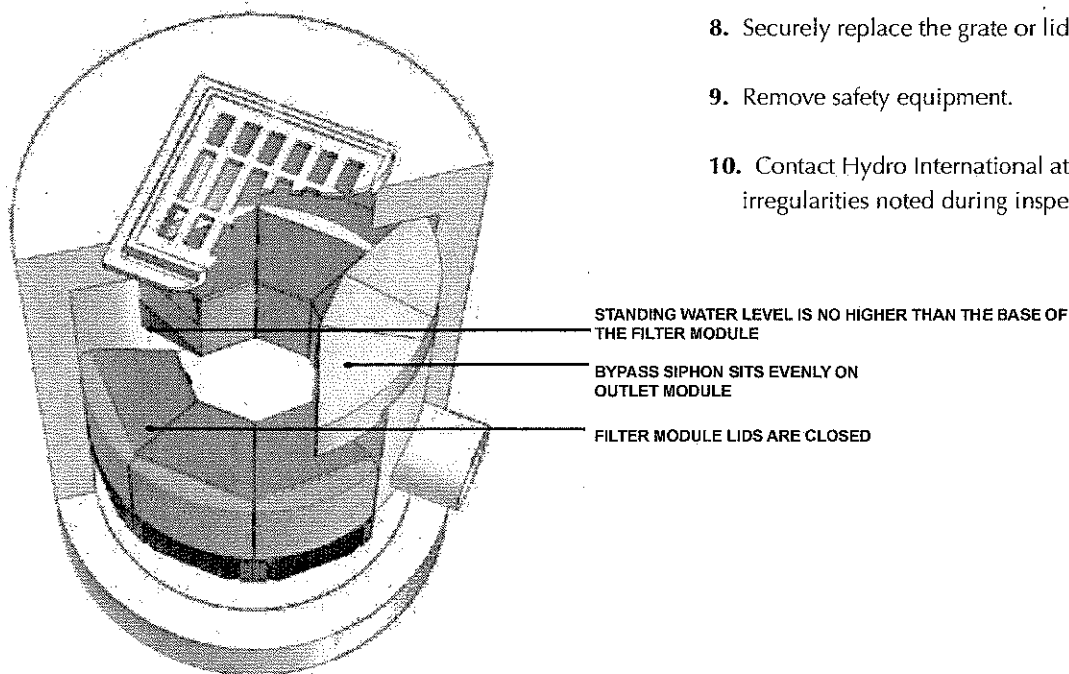

Figure 3: Inspection view of the Up-Flo Filter
3. Without entering the vessel, look down into the chamber to inspect the inside. Make note of any irregularities. See Figure 3 for a typical Inspection View.
7. On the Maintenance Log provided by Hydro International, record the date, unit location, estimated volume of floatables and gross debris removed, and the depth of sediment measured. Also note any apparent irregularities such as damaged components or a high standing water level (see Figure 3 for the standard standing water level).
4. If the standing water level in the sump is above the base of the Filter Modules (see Figure 3), tug the Pull Chain(s) to release the Drain Down Plug(s). Allow the excess water to drain out of the chamber.